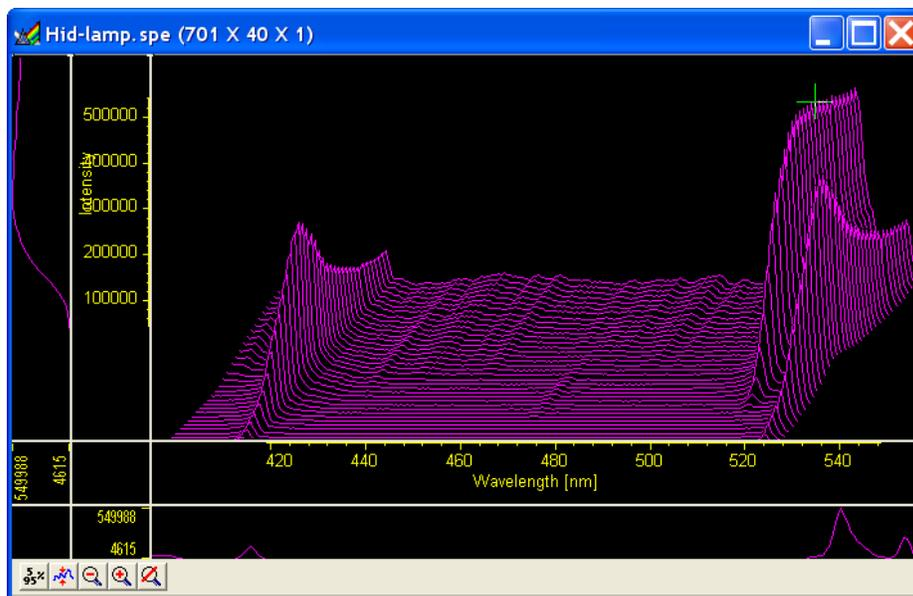

Figure 77. *Hid-lamp.spe* 3D graph expanded to show defined region
2. Click on  (Zoom In). The view will change so that only the selected region is displayed as shown in Figure 77.